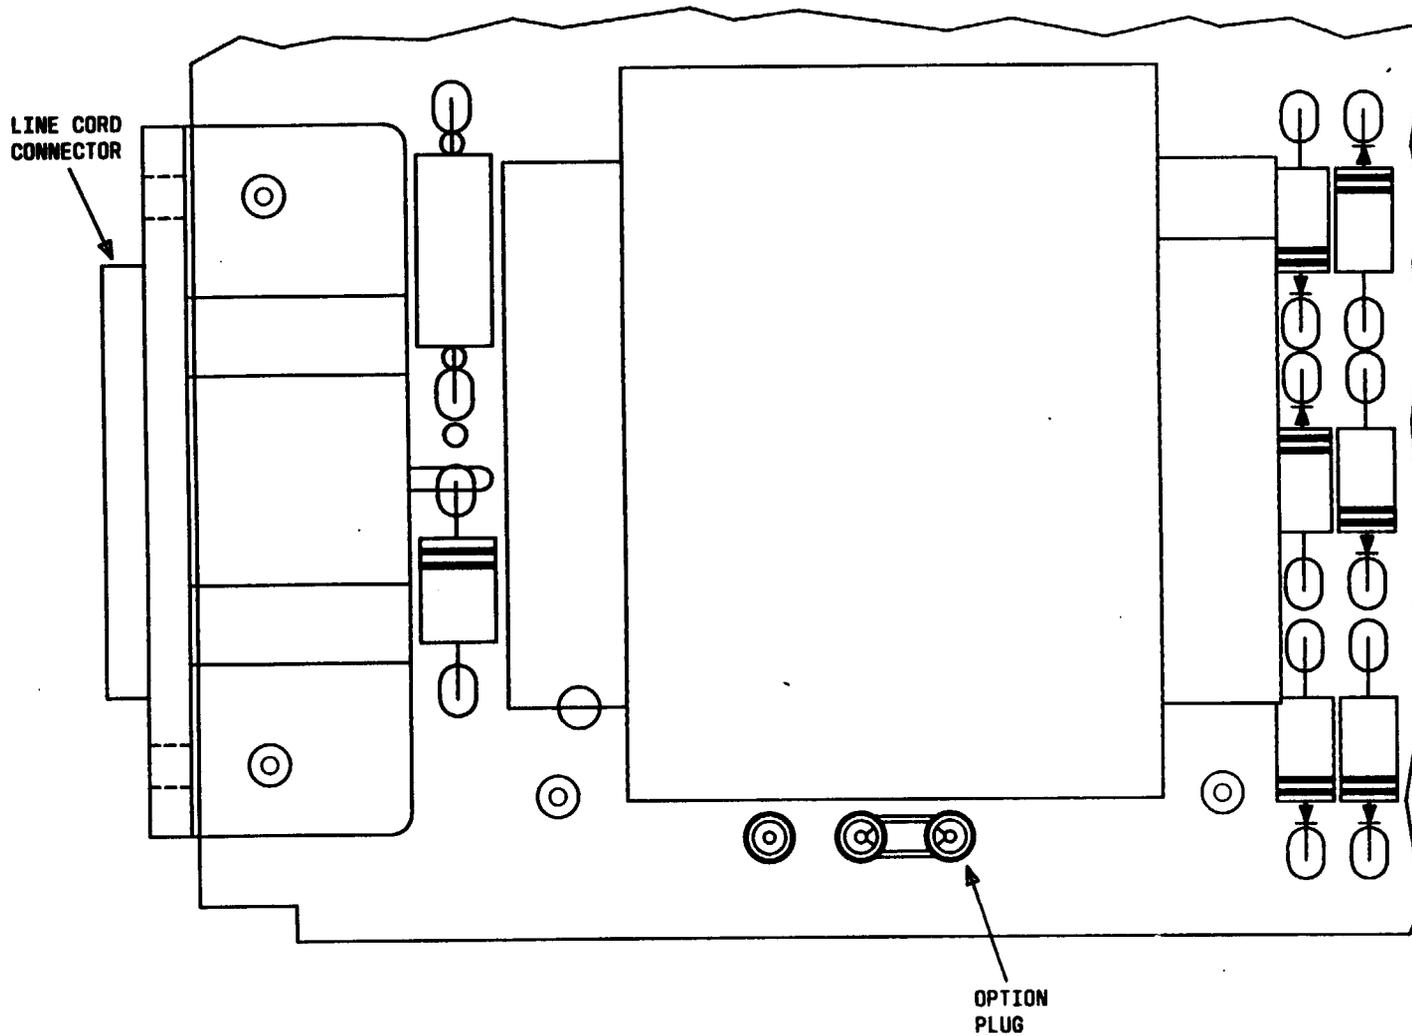

Fig. 2—554A-Type CSU Component Layout Showing Ground Plug Location
2.03 The option plug is shown in Fig. 2. There are two possible positions. The plug is shown with the signal-to-ground option selected. The alternate position is used to store the plug.